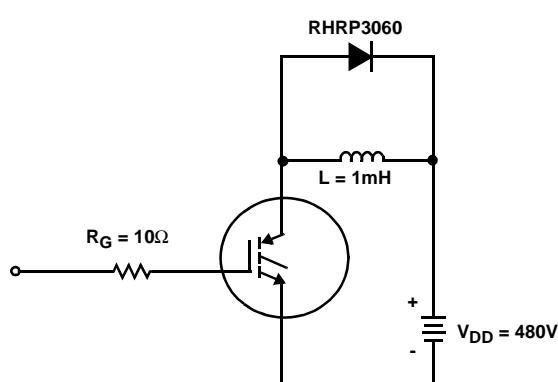

FIGURE 17. INDUCTIVE SWITCHING TEST CIRCUIT
4. Values for two Turn-On loss conditions are shown for the convenience of the circuit designer. E_{ON1} is the turn-on loss of the IGBT only. E_{ON2} is the turn-on loss when a typical diode is used in the test circuit and the diode is at the same T_J as the IGBT. The diode type is specified in Figure 17.